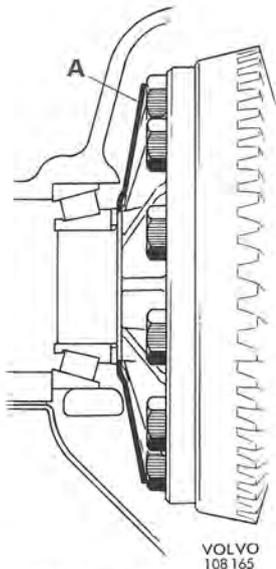

Fig. 4-169. Lock plate (A) for crown wheel bolts
- Fit the shims on the differential carrier and press on the bearings. Do not forget the lock plate for the crown wheel bolts, see Fig. 4-169.